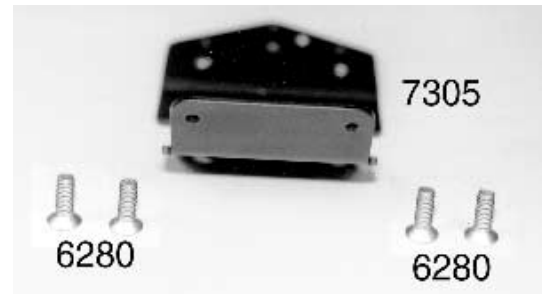
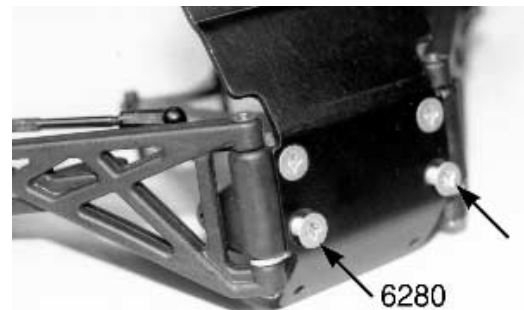

Fig. 23
Fig. 24
□ **Figs. 23, 24 & 25** (1) Open bag #7-4 and remove the #7305 black aluminum chassis nose plate. (2) Back in bag #7-1 you will find four #6280 8-32 x 1/2" aluminum FHMScrews. (3) Using a #2 Phillips screwdriver we are going to install the front bulkhead assembly to the #7305 nose plate. Insert one of the #6280 FHMScrews through the bottom of the nose plate and line it up with the appropriate hole in the bottom of the front bulkhead (see fig. 24). Do not tighten the screw all the way down. (4) Now install the other three #6280 FHMScrews the same way and then tighten down all four screws. DO NOT OVERTIGHTEN, otherwise you will strip out the nylon. When you are done your front end will look like fig. 25.